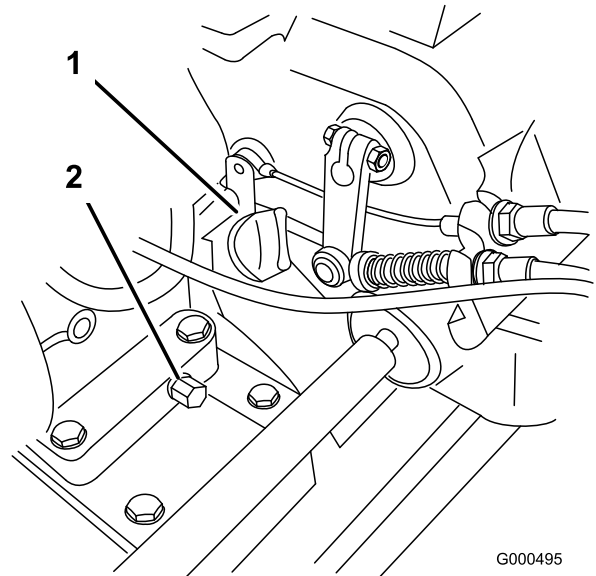

Figure 22
1. Position mower so the engine is level and clean around oil level gauge (Figure 22).
2. Place a drain pan at rear of machine under drain plug (Figure 22). Remove drain plug.